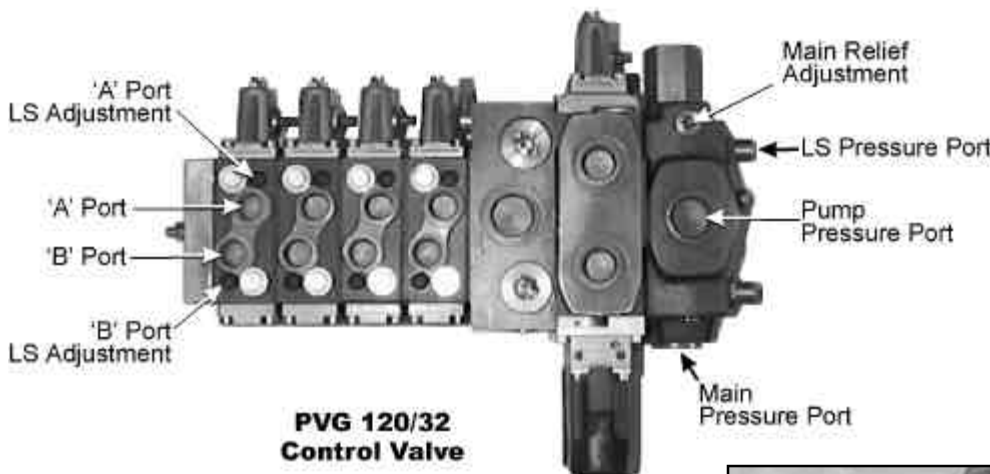

Figure 3
- 1) Connect the 1000453 pressure gauge to the Danfoss control valve main pressure port; (P) on a PVG 32 valve and (MA) on a PVG 120/32 (See Figure 3).
ADJUSTMENT OF THE MAIN RELIEF VALVE (Figure 3 & 4)